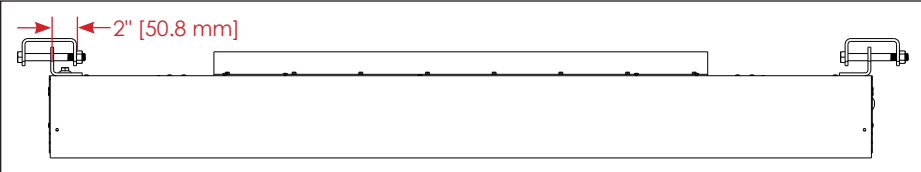

Figure 3: Center Cabinet on Wall Channel (Top View)
- 4. Lift the first display section into place per the **RTX-2101/2801 Series Section Lifting Quick Guide (DD3884528)**. It is recommended to place the second cabinet from the left first. Set the cabinet location per the contract-specific Shop Drawing and insert a temporary 1/4" self-drilling screw to prevent the cabinet section from moving when placing the adjacent section. Refer to **Step 10** for further details. This allows the cabinet to be centered on the wall clips. Refer to **Figure 3**.